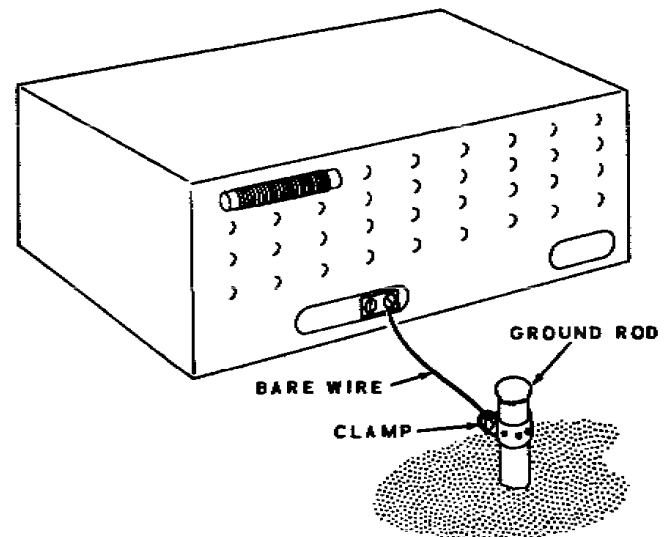

Figure 10
11. Attach a bare wire from the right hand CW-Key terminal to the clamp on the ground rod. Refer to Figure 10.